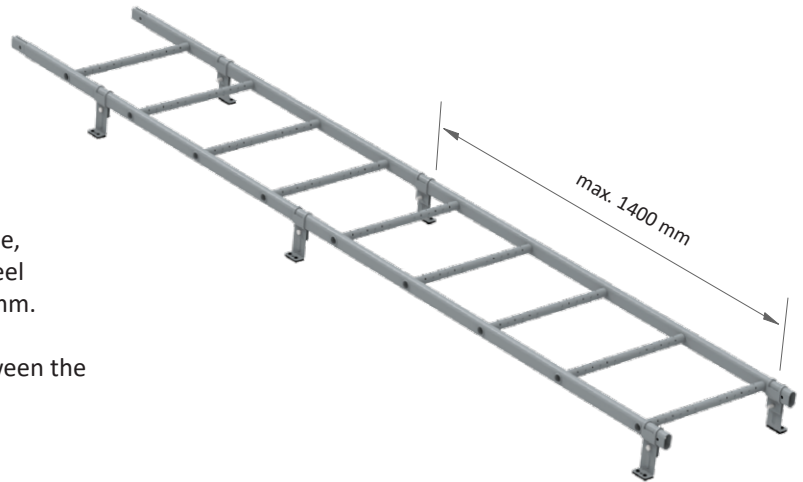
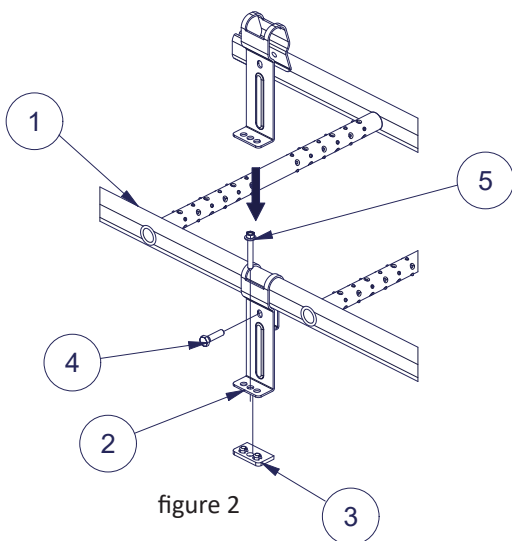

figure 1
figure 2
The top pair of roof ladder fasteners are always mounted between the top two ladder frames (figure 1).
- Install the roof ladder fasteners on the ladder frame at max. 1400 mm intervals (figure 1). Attach the roof ladder fasteners with M8x30 hexagon bolt to the ladder frame (figure 2).